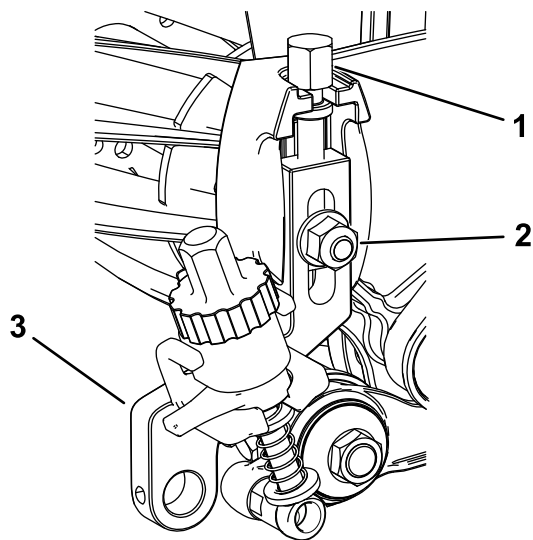

Figure 21
- Thread the previously removed height-of-cut adjusting screws into the top of the height-of-cut assemblies (Figure 21).
2. Install the height-of-cut assemblies to the cutting unit side plates using the previously removed plow bolt, nut, and special washer (Figure 21).